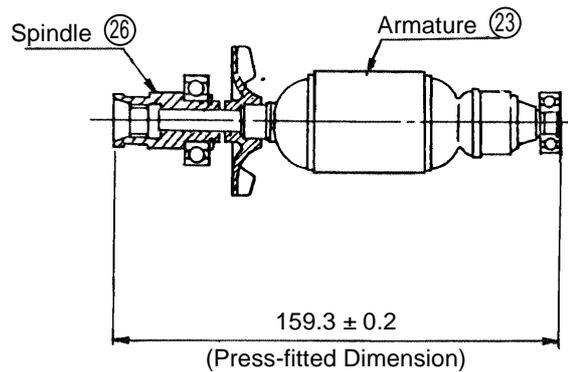

Fig. 7
(1) Reassembly of the Spindle ㉔:
Press-fit the Spindle ㉔ onto the Armature ⑬ so that the dimension from the tip of the Spindle to the opposite end of the Armature is 159.3 ± 0.2 mm, as illustrated in Fig. 7. Also, be very careful to